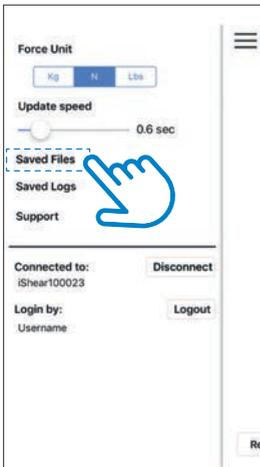
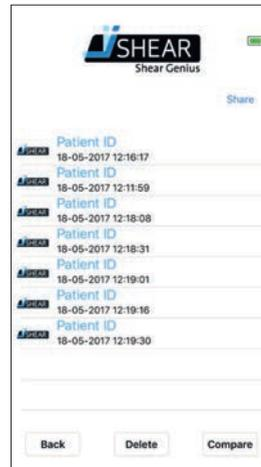

Figure 28 - Menu screen
Figure 29 - Saved Files
3. Choose 'Saved files' (see Figure 28). This takes you to the list of saved Files (see Figure 29).